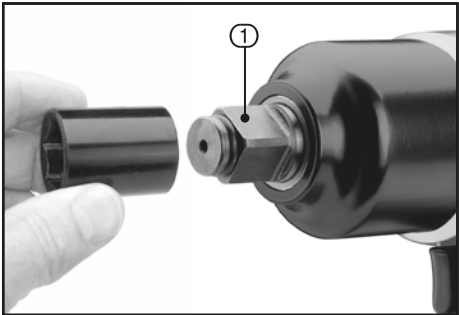

FIG.3
8.4 INSTALLING AND REMOVING SOCKETS – FIG.3
8.4 USING A MINI OILER – FIG.3